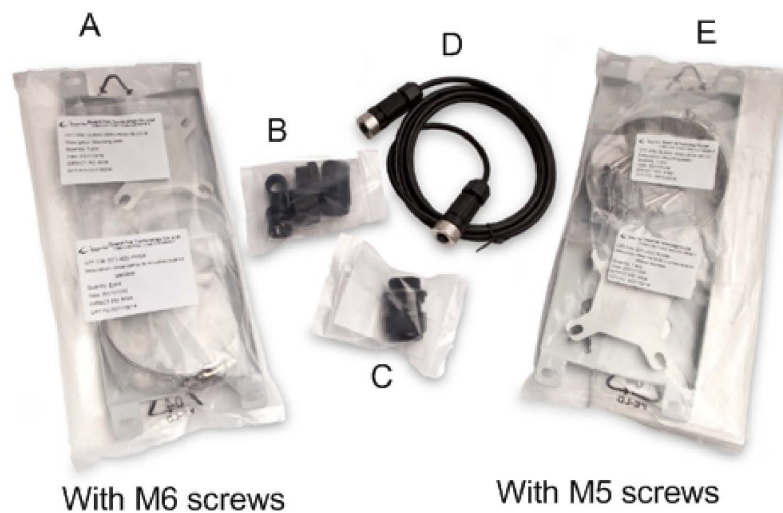

Figure 6-1. Packaged Items
- Two (2) hardware mounting kits (one for the X1 Outdoor Router and one for the power module for wall or pole mounting, see Figure 6-1 on page 36, items labeled A and E:
- One (1) power module gland, package also includes a small Allen wrench, see Figure 6-1 on page 36, item labeled B
- One (1) LAN Ethernet gland, see Figure 6-1 on page 36, item labeled C
- One (1) DC 6 foot power cable, see Figure 6-1 on page 36, item labeled D